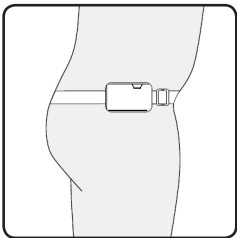

Figure 4: Fasten the belt on the patient's body and adjust the width as necessary.
1. Fit the belt around the patient's waist. Fasten and adjust the belt width as necessary (**Figure 4**). The belt should be worn such that it is comfortable for the patient. The pouch for the TS is located above the patient's hip.